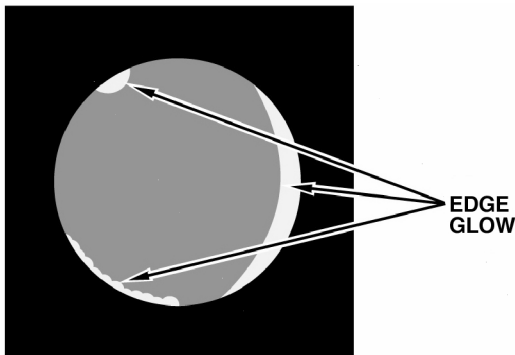

Figure 2-4. Edge Glow.
(2) Edge Glow. Edge glow is a bright area (sometimes sparkling) in the outer portion of the viewing area (see Figure 2-4). To check for edge glow, block out all light by cupping a hand over the objective lens. If the image intensifier is displaying edge glow the bright area will still show up. Return the MNVD to the maintainer.